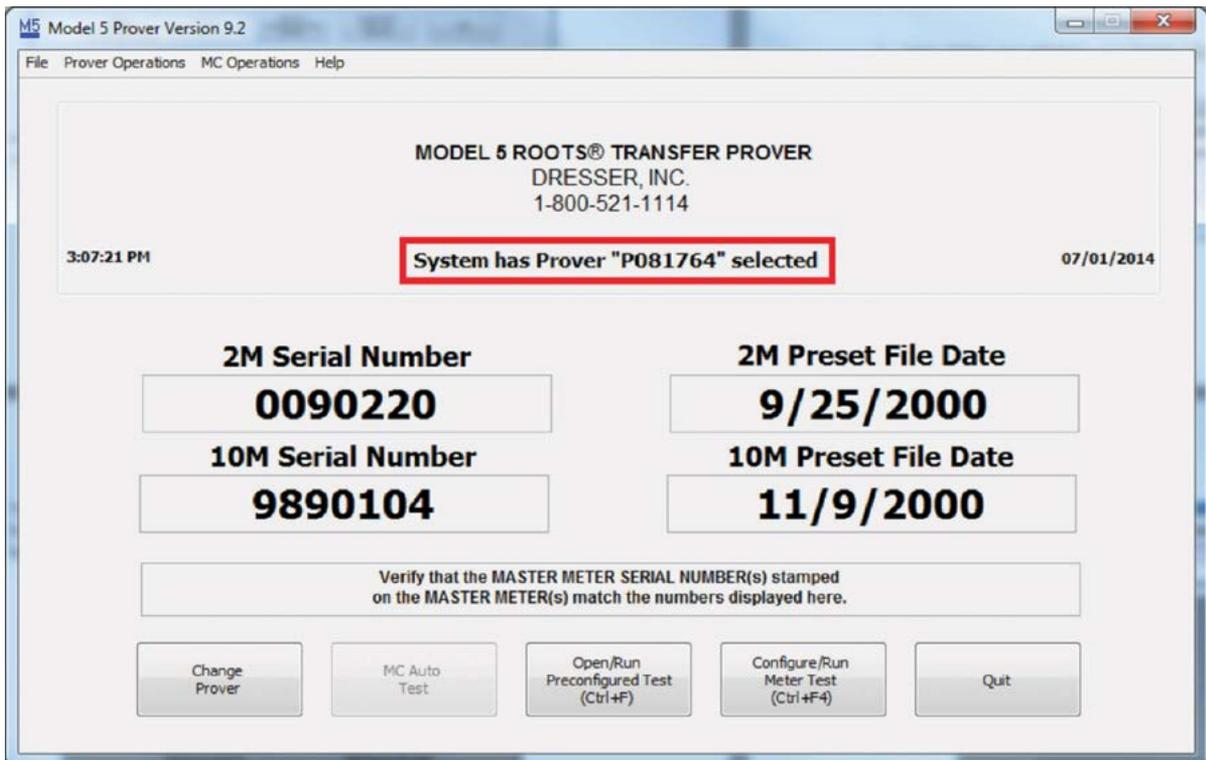

Figure 77: New Prover ID Reflected
- The dialogue box will disappear. Confirm the procedure was successful by checking the Prover ID number reflected in the center of the screen, as shown in **Figure 77**.